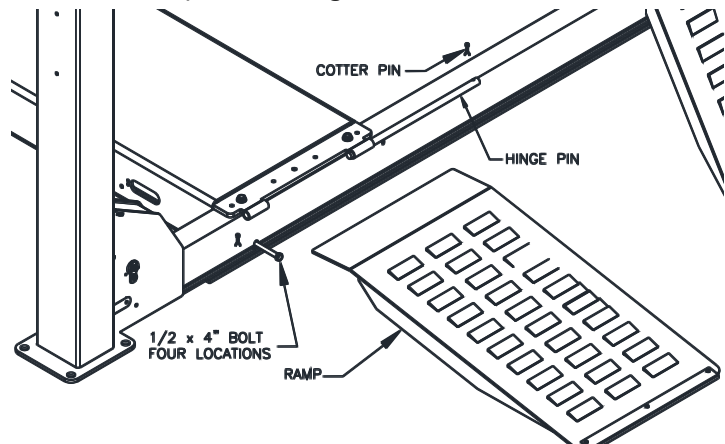

Fig 24 – Warning & Caution Decal
- 67) Install the four 1/2-13 x 4" bolts through front and rear crossbeam and into the runways. Torque to 60-80 foot pounds. See **Fig 24**
68) Assemble the each Ramp using the hinge pins and cotter pins. See **Fig 24**.